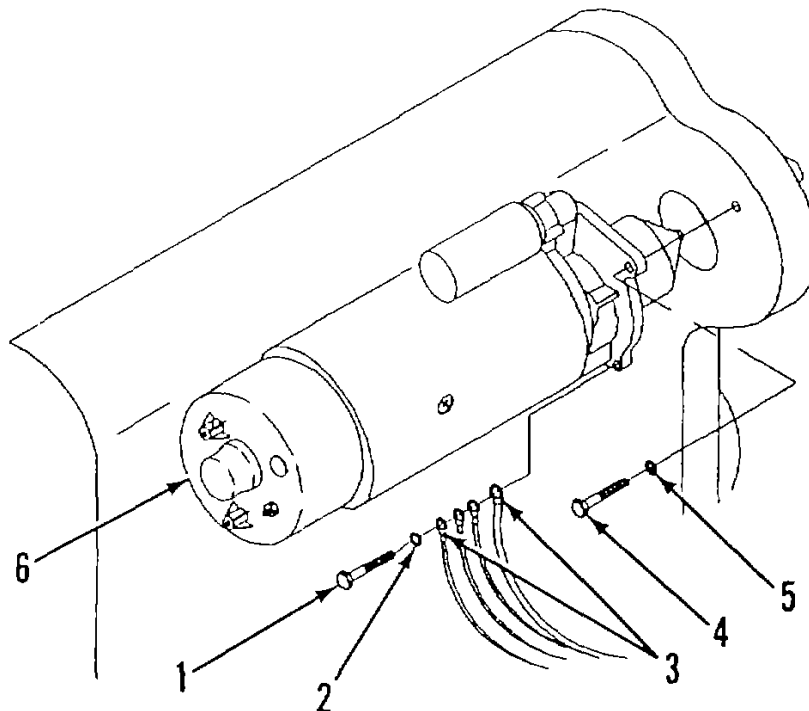

Figure 2-41. Starter Assembly
a. **REMOVE.** (Figure 2-41)
- (1) Tag and disconnect wires to starter.
- (2) Remove lower bolt (1), lockwasher (2), and wiring bundle (3).
- (3) Hold starter in place. Remove two bolts (4), lockwashers (5), and starter (6).